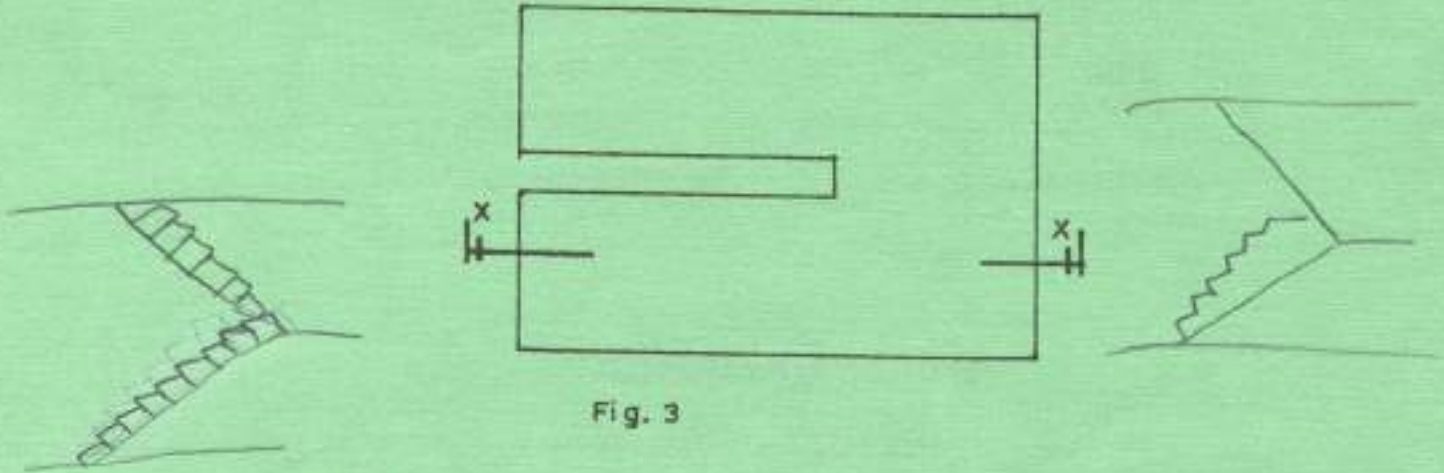

Fig. 3
- (b) Figure 3 shows the plan of a stair. Using the data in Table 1 and to a scale of 1:25 draw section X - X. (14 marks)